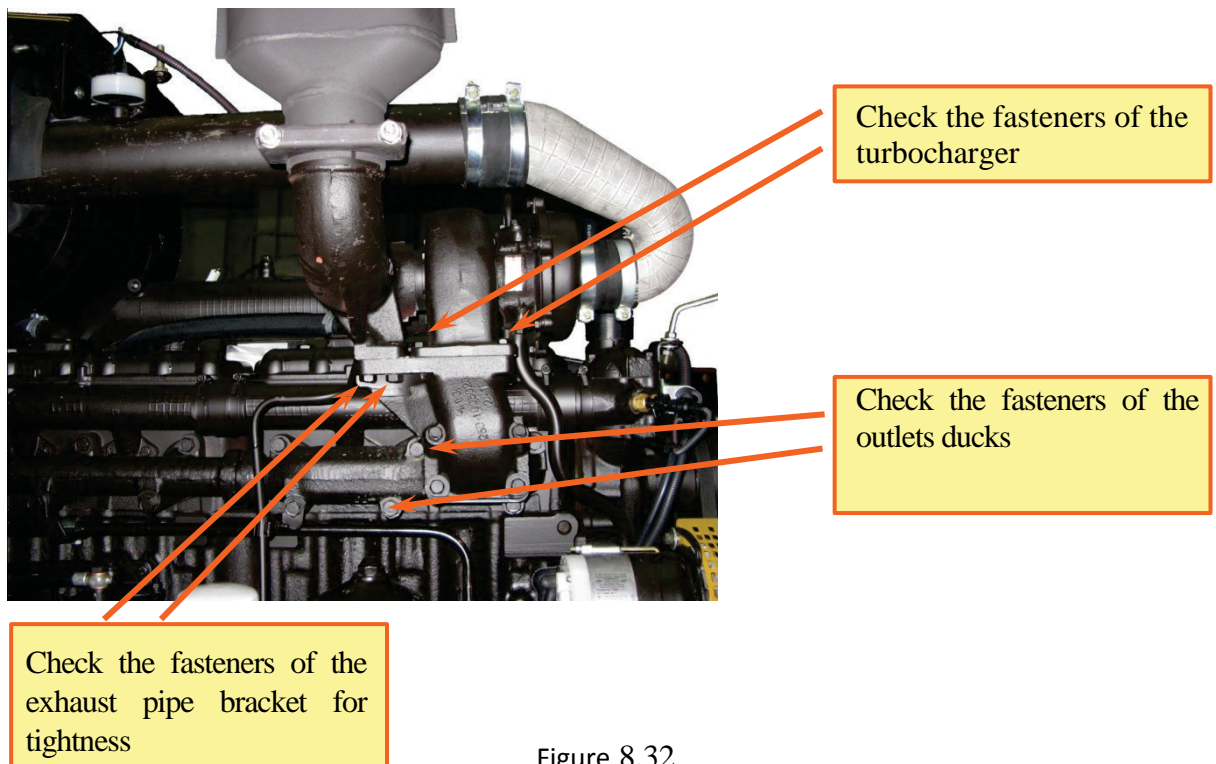

Figure 8.32
**Procedure 26. Turbocharger (fig. 8.32)**